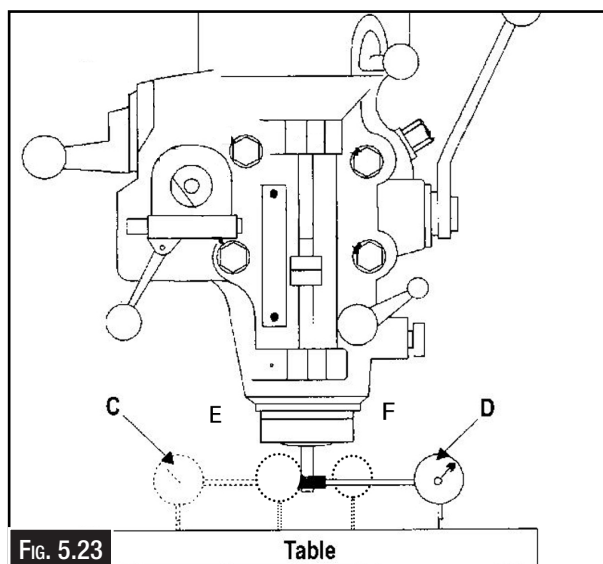

FIG. 5.23
2. Put the spindle drive in neutral and rotate the spindle 180 degrees. When rotating, raise the indicator plunger to prevent it from dropping into the table T-slots (Fig. 5.23)
3. The indicator should read the same in position "C" and "D" (Fig. 5.23) of the table. If not, loosen the four hex nuts (A of Fig. 5.23) and reposition the mill head.
If the indicator does not read the same in "E" and "F" (Fig. 5.23) loosen the nuts "A" in Fig. 5.25 and reposition the mill head.